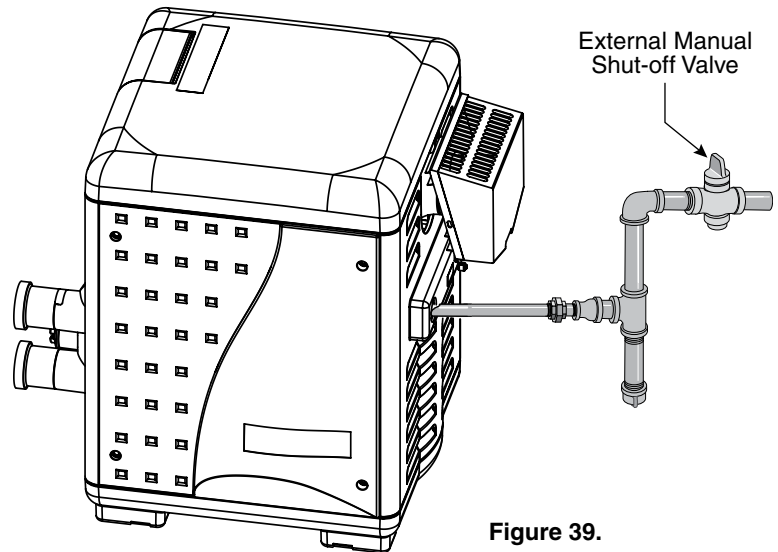

Figure 39.
5. Turn **off** the outside external manual shut-off gas valve, see Figure 39.
6. Wait five (5) minutes to clear out any gas. If you then smell gas, **STOP!** Follow “B” in the “Before Start-up” instructions (page 40). If you don’t smell gas, go to the next step.
7. Turn **on** the outside external manual shut-off gas valve, see Figure 39.
3. Turn **off** the outside external manual shut-off gas valve, see Figure 39.